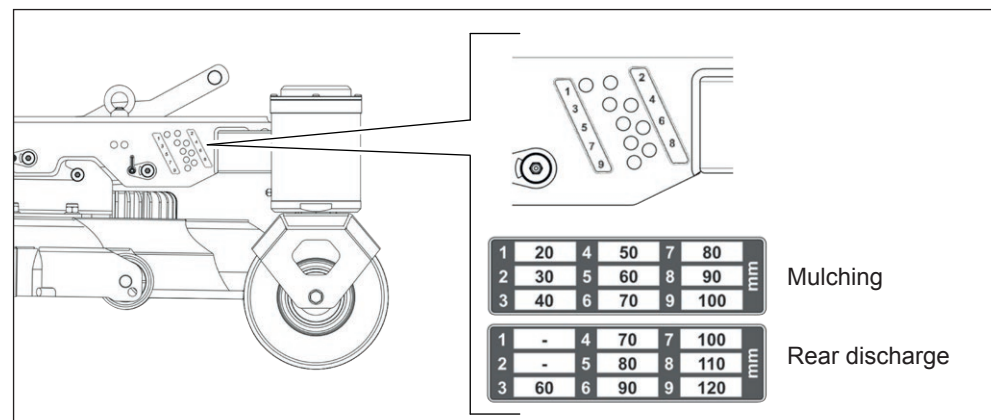

Fig. 21
- c. The cutting height of the mower is adjusted manually using two adjustment pins, inserted into a series of holes located on the front part of the deck support frame (Figure 21). The holes system allows for height adjustment in 10 mm increments. The total cutting height range depends on the type of deck installed: